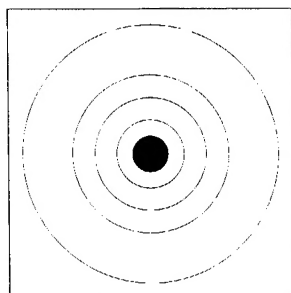
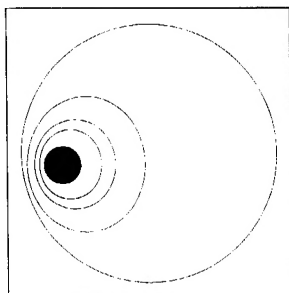

Fig. 18A.
Fig. 18B.
- a. Bring the star image slowly out of focus until one or more rings are visible around the central disc. If the collimation was performed correctly, the central star disk and rings will be concentric circles, with a dark spot dead center within the out-of-focus star disk (this is the shadow of the secondary mirror), as shown in Fig. 18A. (An improperly aligned telescope will reveal elongated circles, Fig. 18B. with an off-center dark shadow.)
- b. If the out-of-focus star disk appears elongated (Fig. 18B), you will need to adjust the primary mirror tilt hex screws of the primary mirror cell. Adjust the hex screw on the mirror cell until the circles are concentric on either side of focus.